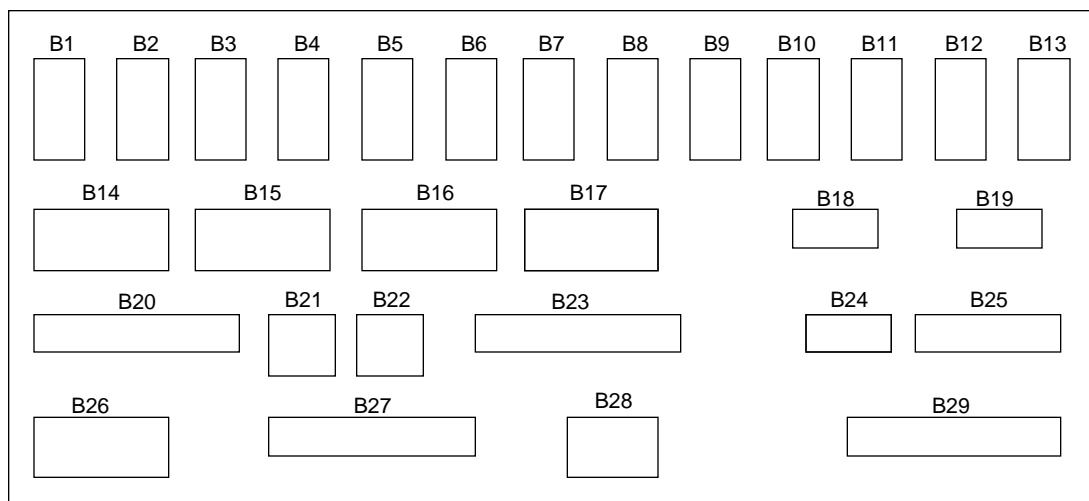

Figure 2. VME Bulkhead
1. Remove B19 from the VME bulkhead by removing two screws. Refer to Figure 2.